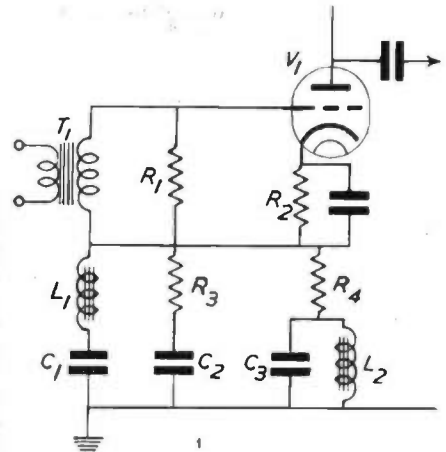

Fig. 1. Circuit for bass compensation by frequency selective negative feedback.
decreased by the decreased impedance of  $C_2$ .  $R_3$  is chosen to make these two effects nearly cancel one another. In the middle register the amount of feed-back tends to be reduced by  $L_1C_1$  and increased by  $L_2C_3$ .  $R_4$  is chosen so that these effects also nearly cancel one another. The data have been obtained throughout by means of H.M.V. constant frequency records and oscillograph measurements of voltages at the L.S. terminals of the amplifier. The amplifier consisted of the first stage described above and in the legend to Fig. 1 (with alternative first stages for other inputs), a second R.C. coupled  $MH_4$ , a phase changer (HL4+) and two  $MH_4$ s driving two  $PP_5/400$ 's in push-pull operating in Class A. With the compensator described and the writer's own energised moving coil pick-up and transformer the overall response is within 2.5 db. of the 1,000 level from 25 c/s. to 8,500 c/s. Transients, moreover, are well preserved and listening tests with three speakers and a dividing network have fully justified expectations based on the response data. A typical overall response curve is shown in Fig. 2, F.
- B = Response due to combination  $L_1C_1$  (Fig. 1).
- D = Modification of B due to  $R_3C_2$  with values given under Fig. 1.
- E = Modification of B due to combination  $R_4C_2L_2$  (Fig. 1).
The circuit is shown in Fig. 1. Its general effect is that all frequencies above 250 c/s. are about 80 per cent. fed back, incidentally giving improved quality by a smoothing of possible minor irregularities in the upper half of the audible band. Below 250 c/s. where a regularly increasing compensation is required down to 25 c/s. (0.75 db. at 200 c/s., 5.5 db. at 100 c/s., 10 db. at 50 c/s. and 11.1 db. at 25 c/s. as shown by curve A, Fig. 2), there is progressively less feed-back until at 25 c/s. there is practically no feed-back and the full amplification of the stage is obtained.
The main agent is the combination of  $L_1C_1$  (Fig. 1) which forms a tuned acceptor with a minimum impedance at or below 25 c/s. Above 25 c/s. the